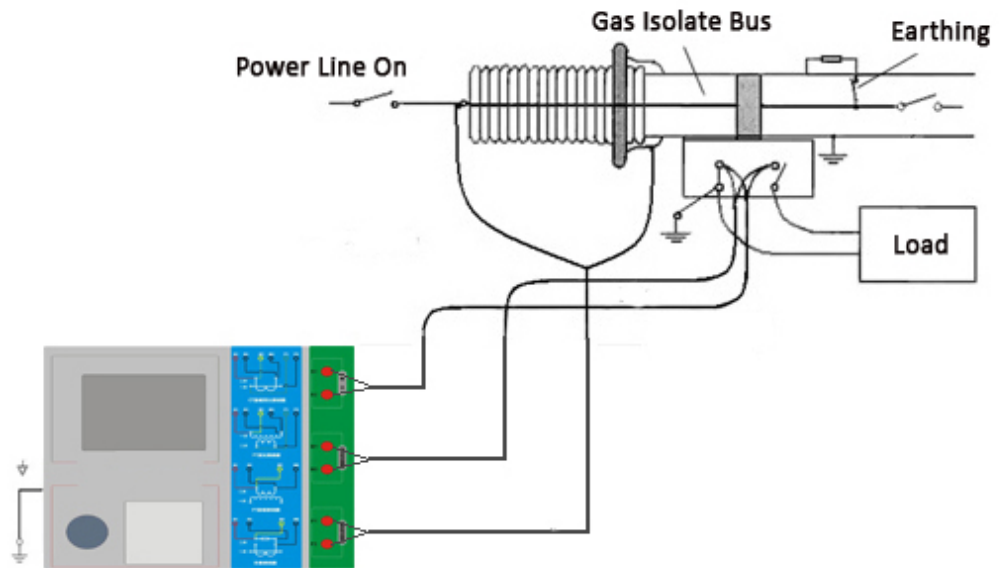

Figure D.4 TRANSFORMER TESTER on GIS (SF6) switch on the test at the time of CT Connection
4. TRANSFORMER TESTER in the GIS (SF6) switch on the wiring of the CT test mode as shown in Figure D.4. NOTE: Disconnect all connected with the bus switch, grounding switch closed.